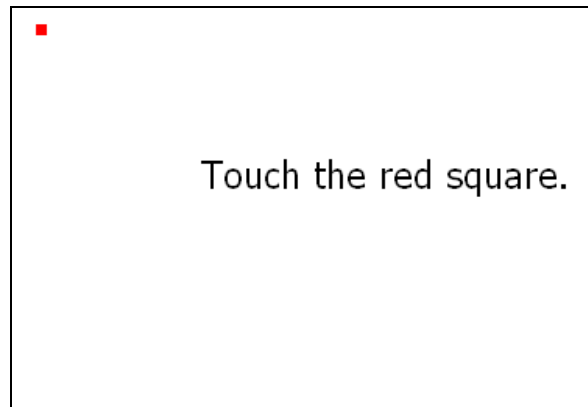

Figure 8-21: Calibration Screen
Step 9: The calibration screen in is shown. See **Figure 8-21**.